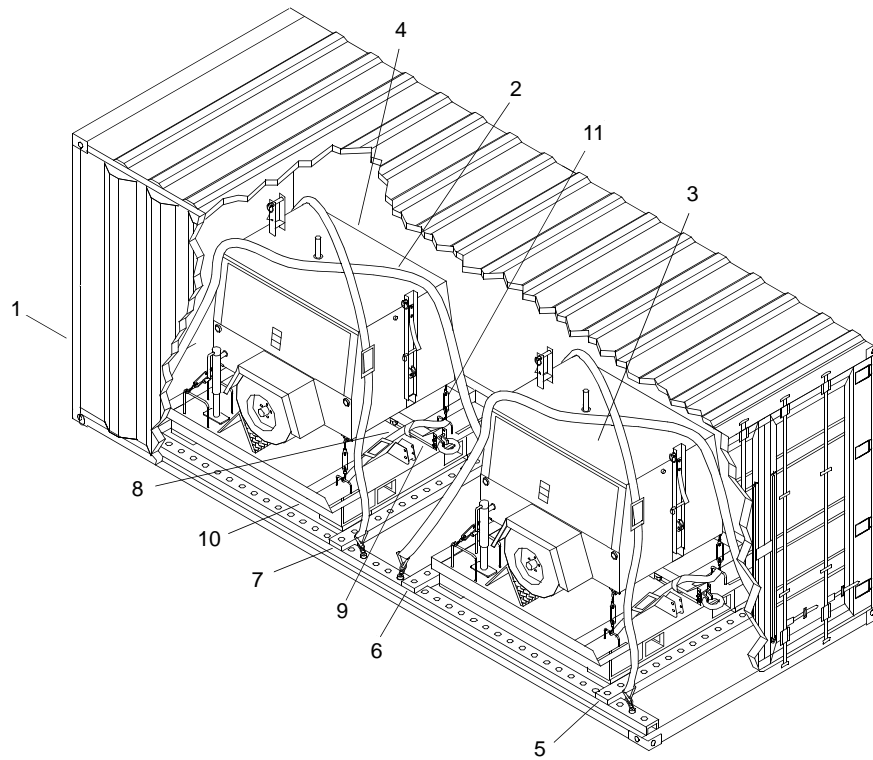

Figure 1. Light Tower Container
1. Using crane, position light tower container (figure 1, item 1) on FC platform.
4. Remove ratcheting tie downs (figure 1, item 2) securing forward (figure 1, item 3) and aft (figure 1, item 4) light towers to light tower container (figure 1, item 1).
5. Remove forward light tower (figure 1, item 3) front track stop (figure 1, item 5).
6. Using forklift, remove forward light tower (figure 1, item 3) from light tower container (figure 1, item 1) and position on FC platform.
7. Remove forward light tower (figure 1, item 3) rear track stop (figure 1, item 6).
8. Remove aft light tower (figure 1, item 4) front track stop (figure 1, item 7).
9. Using forklift and push rod, remove aft light tower (figure 1, item 4) from light tower container (figure 1, item 1) and position on FC platform.
10. Stow track stops (figure 1, items 5, 6, 7) and ratcheting tie downs (figure 1, item 2) inside light tower container (figure 1, item 1).
11. Using load restraining devices, secure light towers (figure 1, items 3, 4) to FC platform.
12. Remove ratcheting tie downs (figure 1, item 8) on both ends securing drawbars (figure 1, item 9) to light tower pallets (figure 1, item 10).
13. Stow ratcheting tie downs (figure 1, item 8) inside light tower container (figure 1, item 1).
14. Remove turnbuckles (figure 1, item 11) from pallets (figure 1, item 10) and light towers (figure 1, items 3, 4).
15. Using assistant, remove drawbars (figure 1, item 9) from beneath light tower pallets (figure 1, item 10) and position near front of each light tower (figure 1, items 3, 4).
16. Install turnbuckles (figure 1, item 11) on pallets (figure 1, item 10) and light towers (figure 1, items 3, 4).